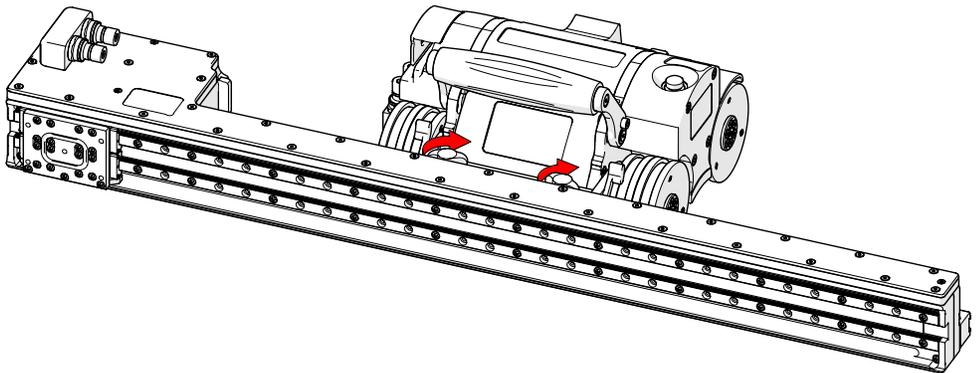

Fig. 34 - Tighten black wing knobs
2. Tighten the two black wing knobs to secure the Raster Arm HT (*Fig. 34*).